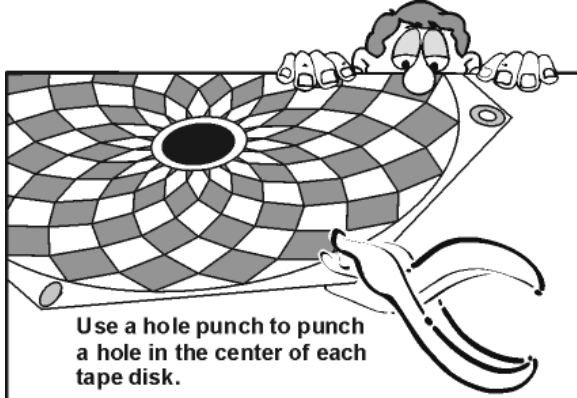

Figure 15
15. **Figure 15** shows you how you can use a hole punch to punch holes in the center of each tape disk. **ADULTS** may wish to help with this step.